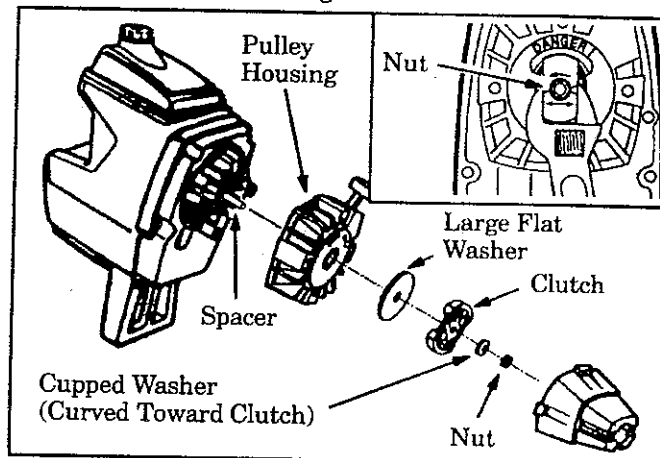

Figure 32
7. Hold the "Flats" of the clutch with an adjustable wrench. Figure 32 (inset) and remove the nut counterclockwise with a 9/16" socket wrench.
8. Remove the cupped washer, clutch, and large flat washer as shown in Figure 32.
9. Remove pulley housing from engine. Figure 32.
24. Make sure spacer is in place as shown in Figure 32. Reverse steps 1 through 10 to re-assemble.